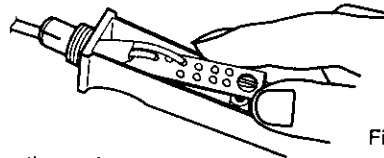

Fig.2
Detach the printed wiring board from the boss inside the handle. Carefully remove both the board and the heating element. See Figure 2.
- Carefully insert the heating element into the metal tube of the handle. The printed wiring board must be held at an angle to do this. See Figure 2.